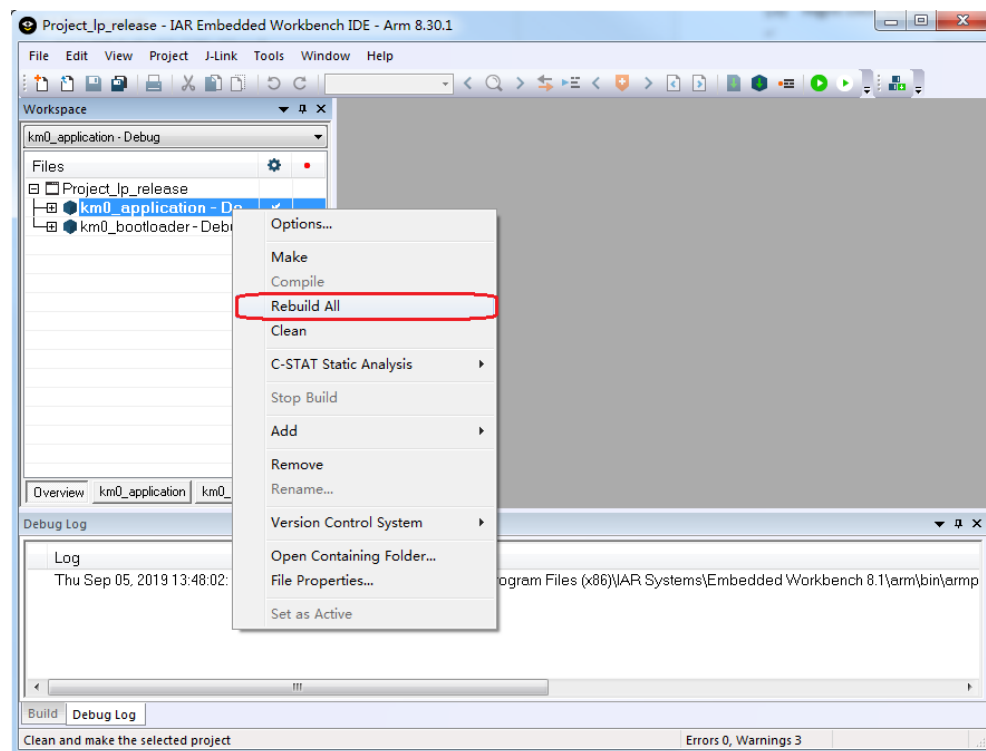

Fig 4-2 Building KM0 project
- (3) Right click the project and choose “Rebuild All”, as Fig 4-2 shows. The km0_bootloader and km0_application should compile in order.